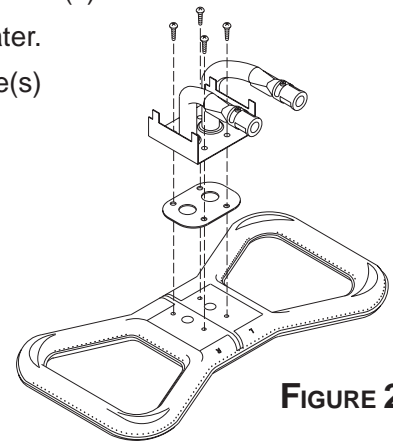

FIGURE 24
3. Lay the burner face down and remove the four retaining screws from the venturi tube plate and the burner. FIGURE 24.